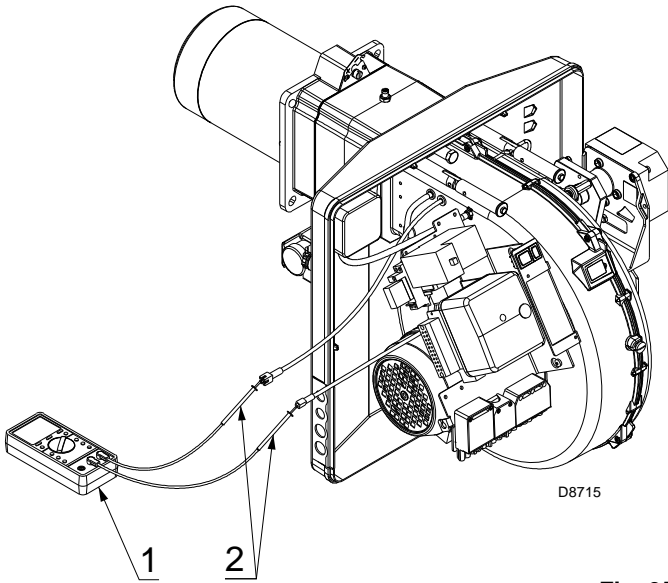

Fig. 35
However, if it is necessary to measure the ionisation current, disconnect the plug-socket (2)(Fig. 35) on the ionisation probe cable and insert a direct current microammeter (1)(Fig. 35) with a base scale of 100 μ A.